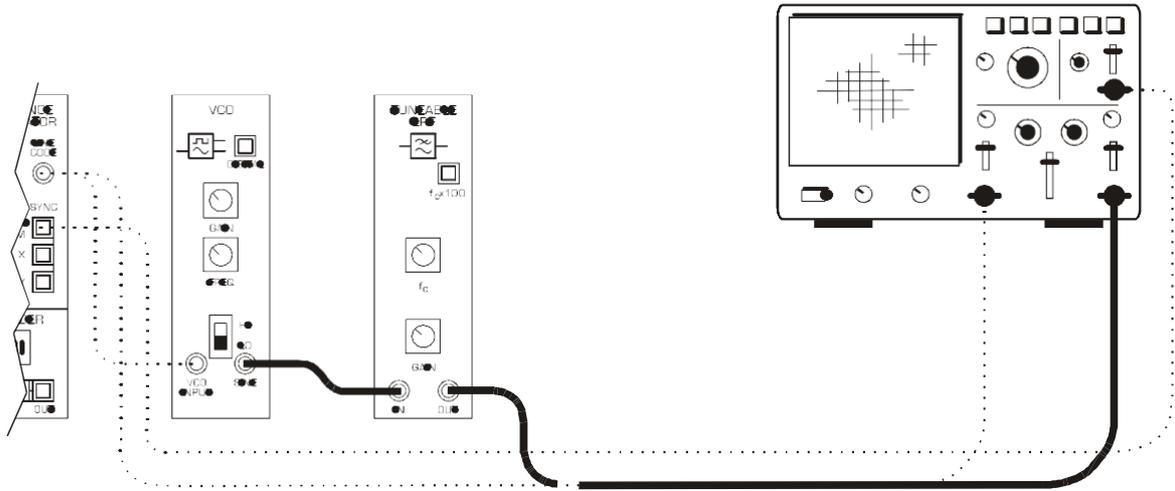

Figure 4: the set-up for a binary FSK demodulation
4. Modify the set-up as shown in Figure 4.